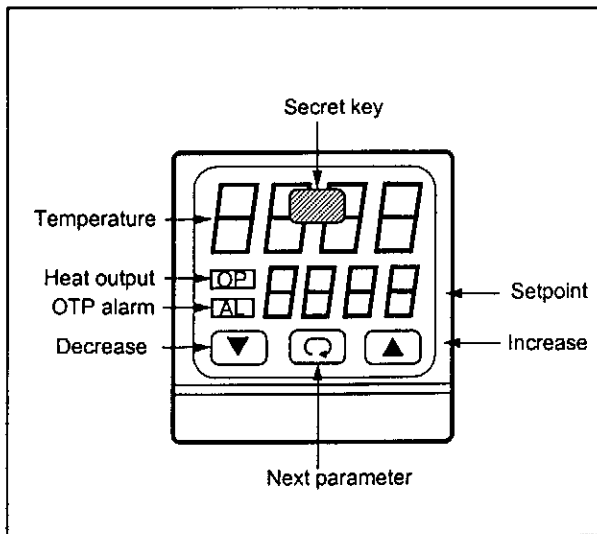

Figure 4. 91p Control Panel
Secret Key	Press the secret key (shown in Figure 4) from the alarm display (AL.SP) to access the protected list parameters.
2. Press the secret key (refer to Figure 4 on page 9) to access the program parameters.